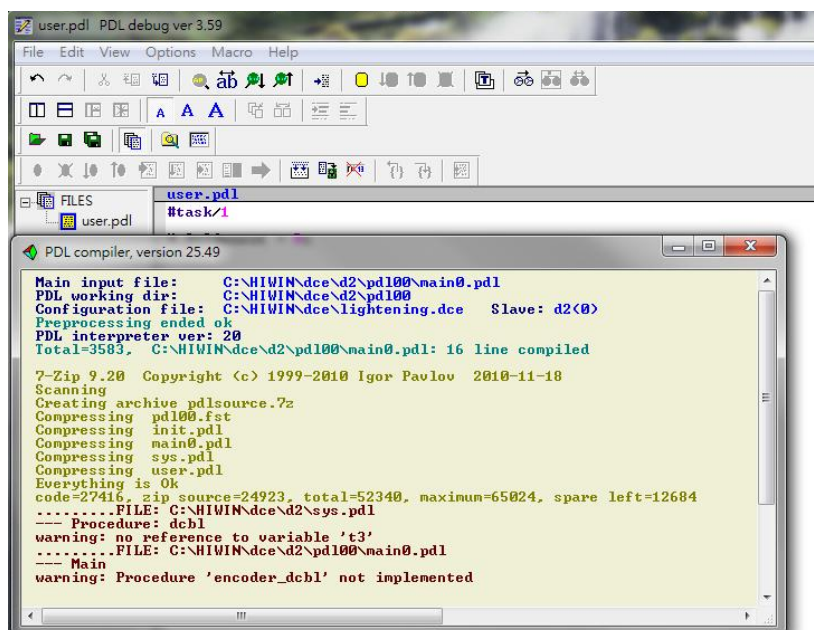

Figure12.2.4
Step 3: After pasting the PDL program or writing the PDL program, click the “Compile” icon () to appear the “Compile” window, as shown in figure 12.2.4.